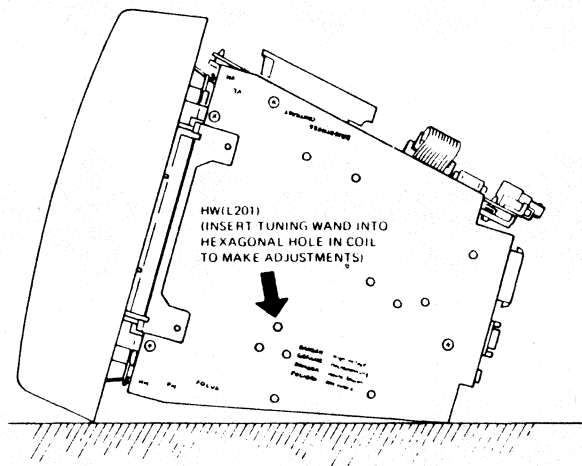

Figure 4-4 Horizontal Width Adjustment
Use your flexible ruler to measure the width of one row in the alignment pattern of E's. If the row does not measure 203.2 mm, adjust the horizontal width (HW) control (L201 in Figure 4-4) with the tuning wand tool (PN 29-23189-00). Go to Paragraph 4.2.5.2.